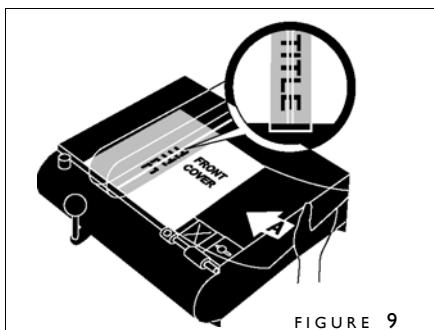

FIGURE 9
3. Slide your cover under the transparent bar until your title is centered between the two silver lines (figure 9). The bottom of your cover must rest against the Left Stop and the Guide Rail. Push the Lever to the right to clamp your cover in place.